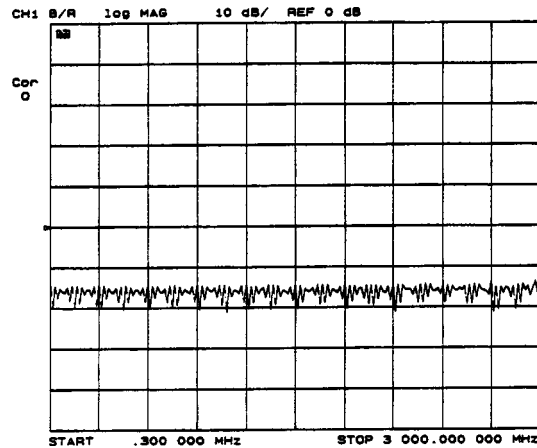

Figure 5-4. Response in the Frequency Domain (beating)
- 8 Clean the ends of the short cable device under test (3 meters) and connect it to the coupler's output/input port. Refer to **Figure 5-4**, and notice the response in the frequency domain. The trace is still at about -14 dB, but shows a ripple pattern caused by the reflected modulated light bouncing back and forth along the path. This effect is sometimes called beating, where re-reflected light is adding and subtracting (as a vector) to the signal as the modulation frequency is varied. The re-reflections occur because of the light bouncing off the end of the short cable (Fresnel), returning back to the coupler, and bouncing back again. This entire re-reflecting process results in the reflections beating against each other.